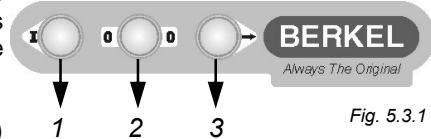

Fig. 5.3.1
5.3 - Checking the efficiency of the stop pushbutton (fig. 5.3.1)
While the machine is connected to the power supply and the tool is moving, press the stop pushbutton "2" Fig. 5.3.1. The machine must stop.
5.4 - Starting the machine (fig. 5.3.1)
To start the machine just press the start pushbutton "1" Fig. 5.3.1 after having correctly connected the plug to the electrical outlet and the machine will start.
5.5 - Stopping the machine (fig. 5.3.1)
To stop the machine just press the stop pushbutton "2" Fig. 5.3.1 and the machine will stop.